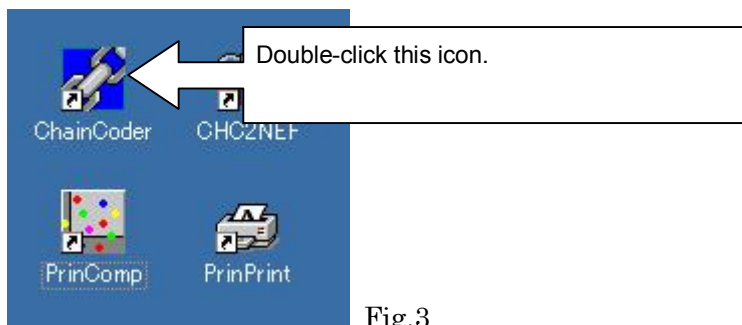

Fig.3
1. Start ChainCoder with double-clicking the “ChainCoder” icon (Fig. 3).